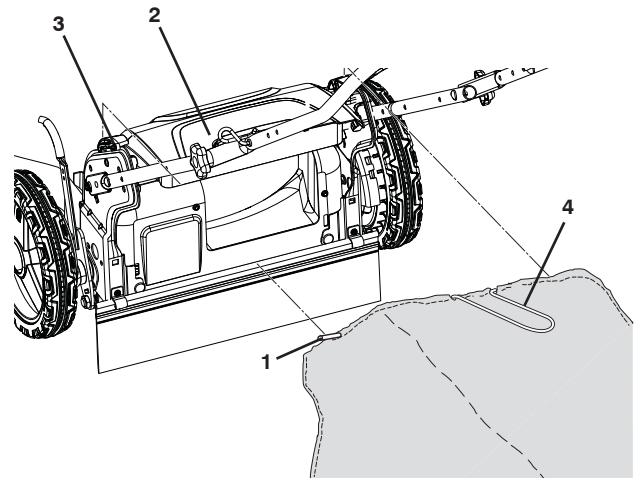

Figure 11
1. Lift rear door of the lawn mower and place the grass catcher frame hooks onto the grass bag brackets (Figure 11).